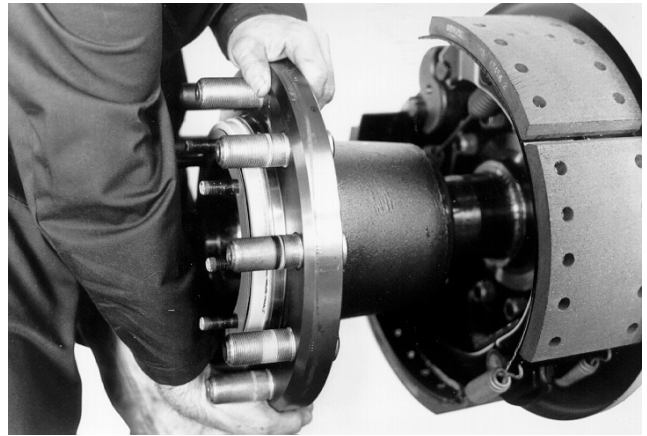

Figure 8
6. Remove the hub, initially attempting to pull the assembly straight off to avoid cocking the inner bearing cone. See Figure 8. If the cone binds against the spindle try rocking the hub to free it, but it may be necessary to use a pry bar under the inner surface of the hub. To avoid damaging the inner seal, pry against the hub only. If the inner bearing remains on the spindle when the hub is removed, use a suitable puller to remove it, pulling only against the bearing's race. Alternately, tap lightly on the race's outboard surface with a small drift to correct its misalignment and again attempt to remove it by hand.